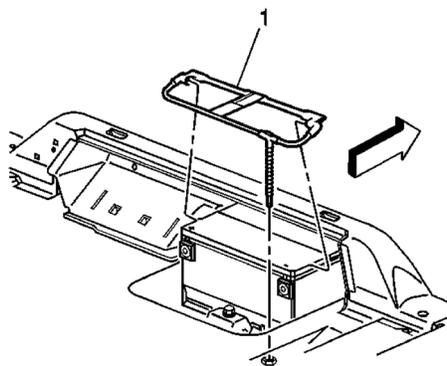

Fig. 3 Battery vent tube
8. Remove battery vent tube (1) from battery, **Fig. 3**.
2. Install battery vent tube (1) to battery, **Fig. 3**.